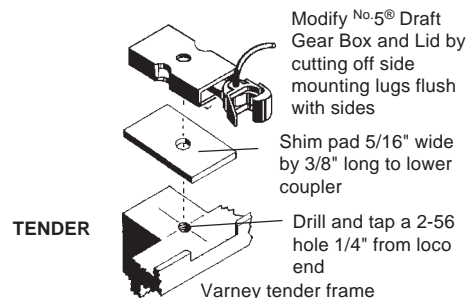

Fig.1
2. For tender: Widen coupler pocket to 5/16". Drill and tap a 2-56 coupler mounting hole, 1/4" from pocket end on tender centerline. See Fig.1.
3. Make shims 5/16" wide by 3/8" long with a 2-56 clearance hole in center or use Kadee® #211 shims with side mounting lugs cut off to lower No.5® Coupler to correct mounting height. See Fig.1.